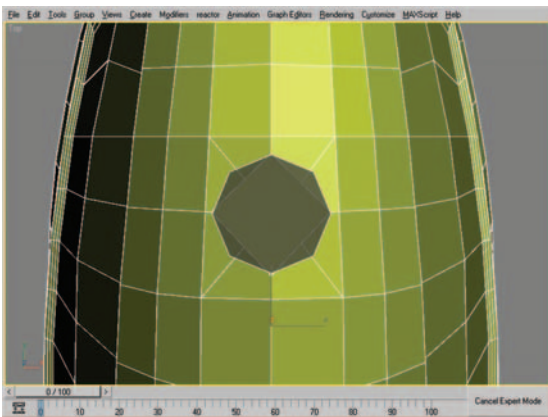

Figure 8.84 Cylinder primitive aligned to gas cap polygon of the base mesh.
7. In the top viewport, align the cylinder with the polygon for the gas cap in the base mesh. Figure 8.84 shows the cylinder aligned to the polygon in the top viewport. I made the cylinder transparent to illustrate the position better. This cylinder is going to be a “guide object” for creating a clean circular detail in the base mesh.